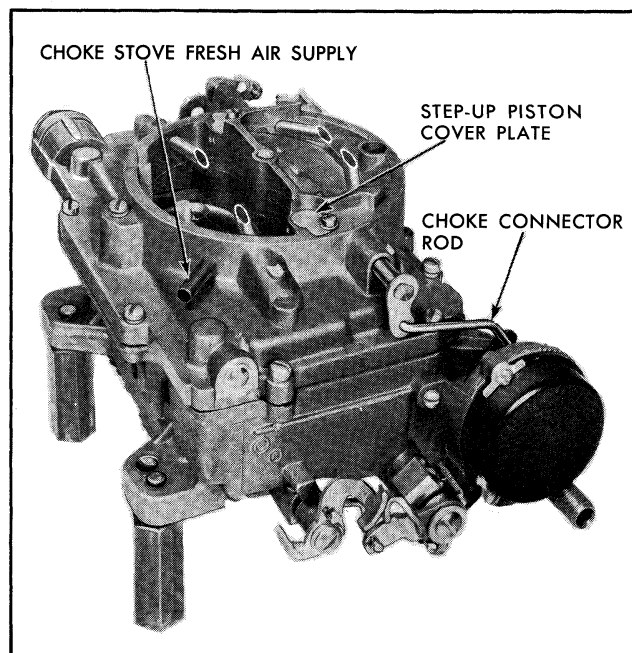

Fig. 6B-76 Carter AFB Carburetor
6. Remove two step-up rods and step-up pistons. If desired, step-up rod may be separated from piston by unhooking step-up rod retaining spring from end of rod (Fig. 6B-77). Remove two step-up rod piston springs.